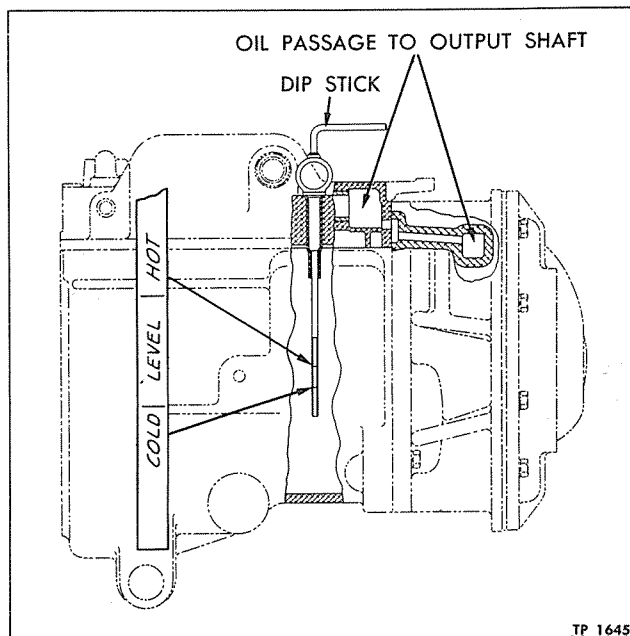

Figure 6—Check Lubricant on Dip Stick
A sump in lower position of main case is equipped with magnetic type drain plug. This plug should be removed and cleaned at draining periods. Angle drive case is also equipped with magnetic type plug which should be cleaned at regular periods. "Hot" and "Cold" levels shown on dip stick (fig. 6) refer to lubricant level when lubricant is hot or cold, respectively.
9. Check lubricant level on dip stick (fig. 6) and if necessary add lubricant to "cold" level, referring to Lubrication (Sec. 13 of this manual) for lubricant specifications.